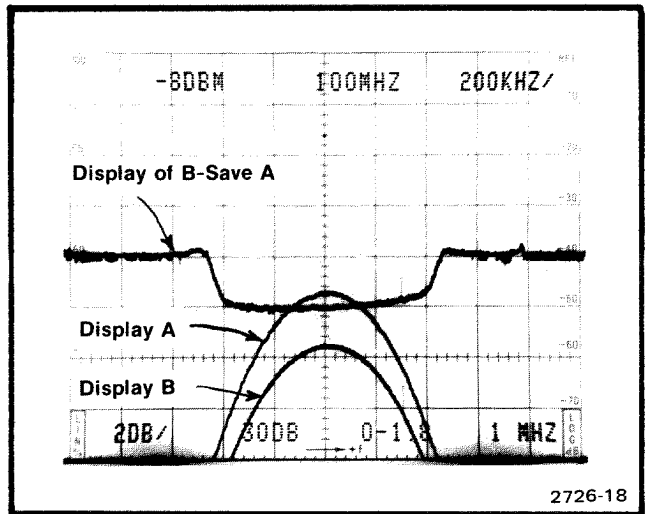

Fig. 3-8. Using digital storage to measure the differential between two events.
d. Activate B—SAVE A and check display. Display should show the difference between display B and display A (see Fig. 3-8).